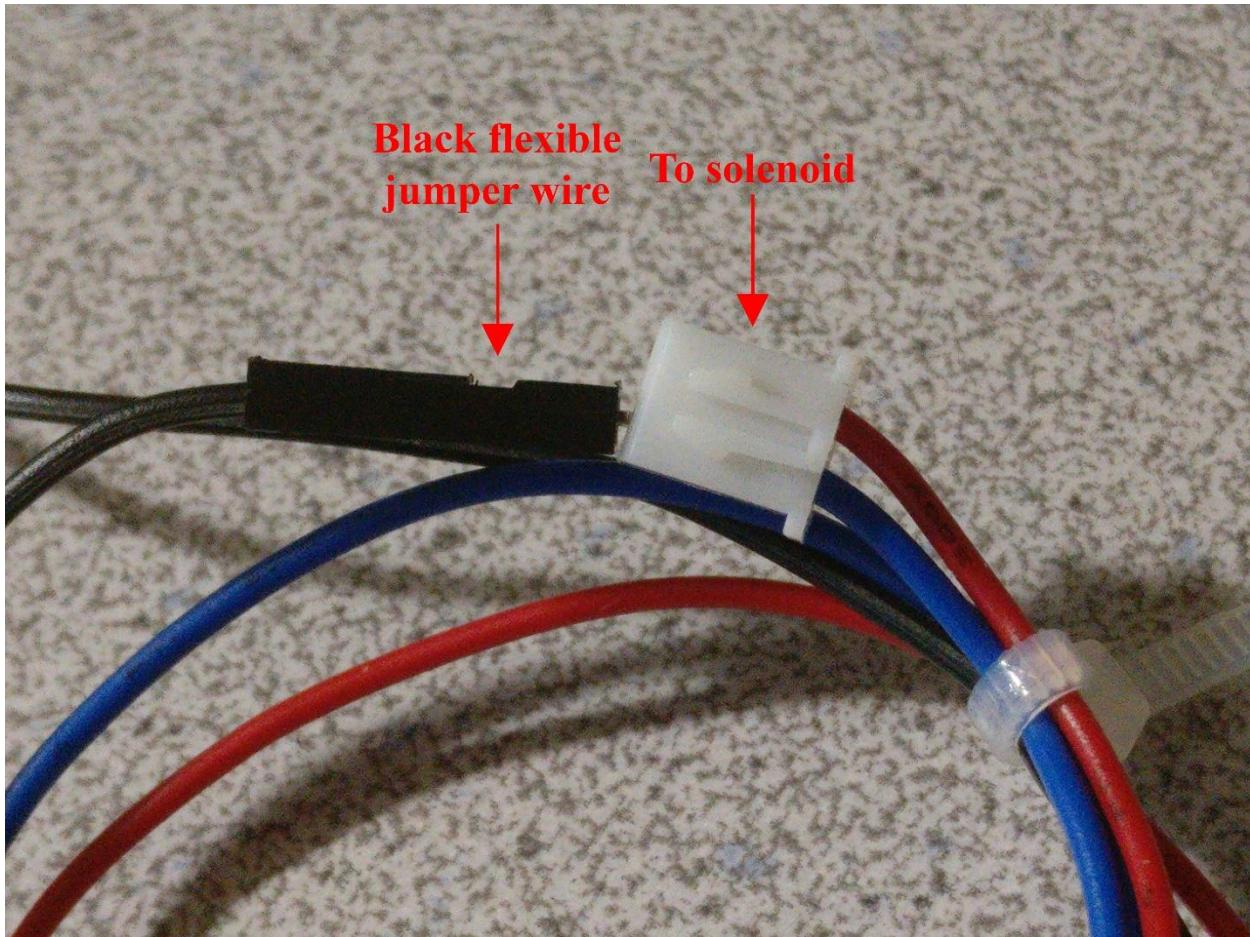

Figure 3-2 – Black flexible jumper wire connected to negative end of solenoid
19. Plug one end of the unused jumper wire into the blue (negative) side of the solenoid's female connector. Refer to Figure 3-2 for an example of what the wiring should look like.